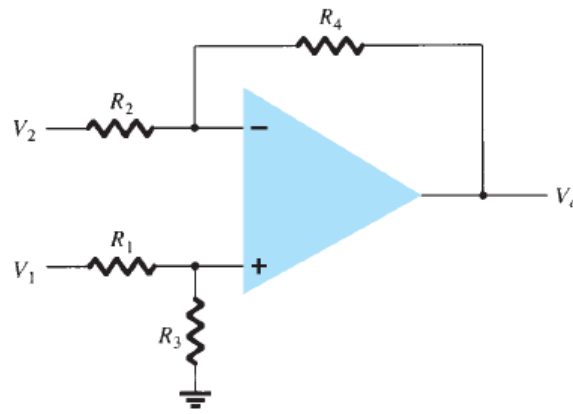

Figure 12.2.2: Difference amplifier
The differential amplifier, Fig. 12.2.2, amplifies the voltage difference present on its inverting and non-inverting inputs. The differential amplifier is a voltage subtractor circuit which produces an output voltage proportional to the voltage difference of two input signals applied to the inputs of the inverting and non-inverting terminals of an operational amplifier.
1. Connect the circuit as shown in Fig. 12.2.2 with certain modifications.